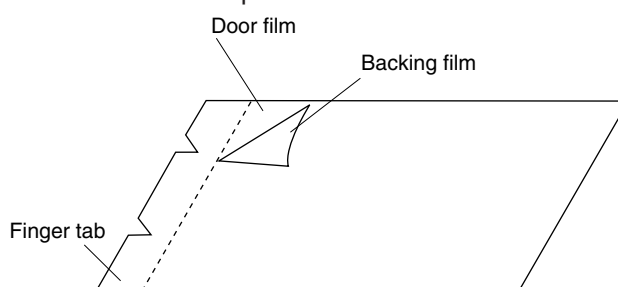

Figure C-6. Inner Sealer Film
3. Hold the glass stopper with the two (2) screws.
6. Put sealer film on door panel. Refer to "Inner Sealer Film" and figure C-6, on how to handle the new film.
7. Catch two (2) pins of door panel on two (2) hole of upper and lower oven hinges.